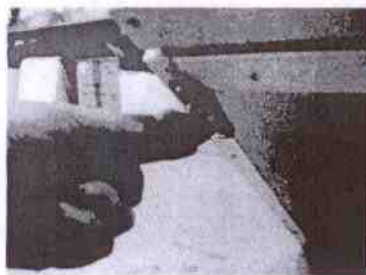

Figure 6
7. Remove the bottom, left hand feet and base plate (figures 6 and 7).